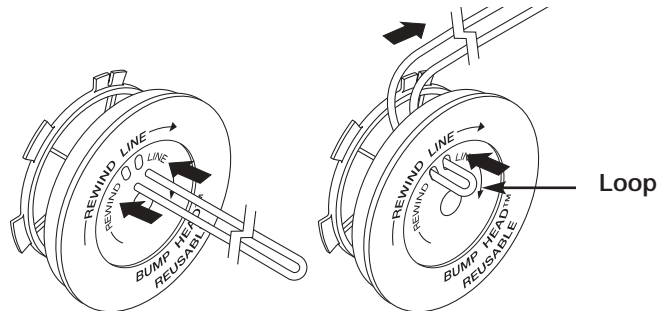

Fig. 16
- Take approximately 20 feet (7 m) of new trimming line, loop it into two equal lengths. Insert each end of the line through one of the two holes in the inner reel (Fig. 16). Pull the line through the inner reel so that the loop is as small as possible.